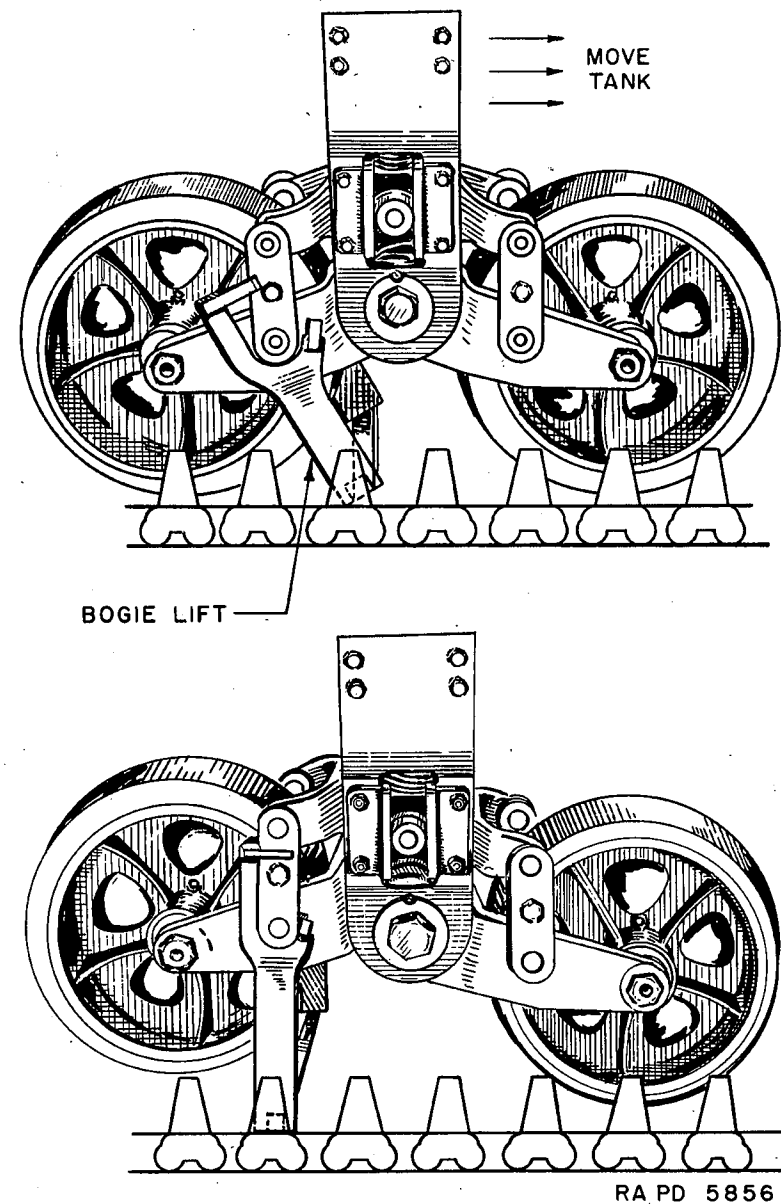

Figure 65—Bogie Wheel Lift
(1) Position special bogie wheel lift, Tool No. C-76085, under bogie arm connecting link as shown in Fig. 65. Drive vehicle forward very carefully until lift has rotated to a vertical position and forced bogie wheel upward.
(2) Remove cotter pin and nut on inner end of bogie wheel gudgeon pin.